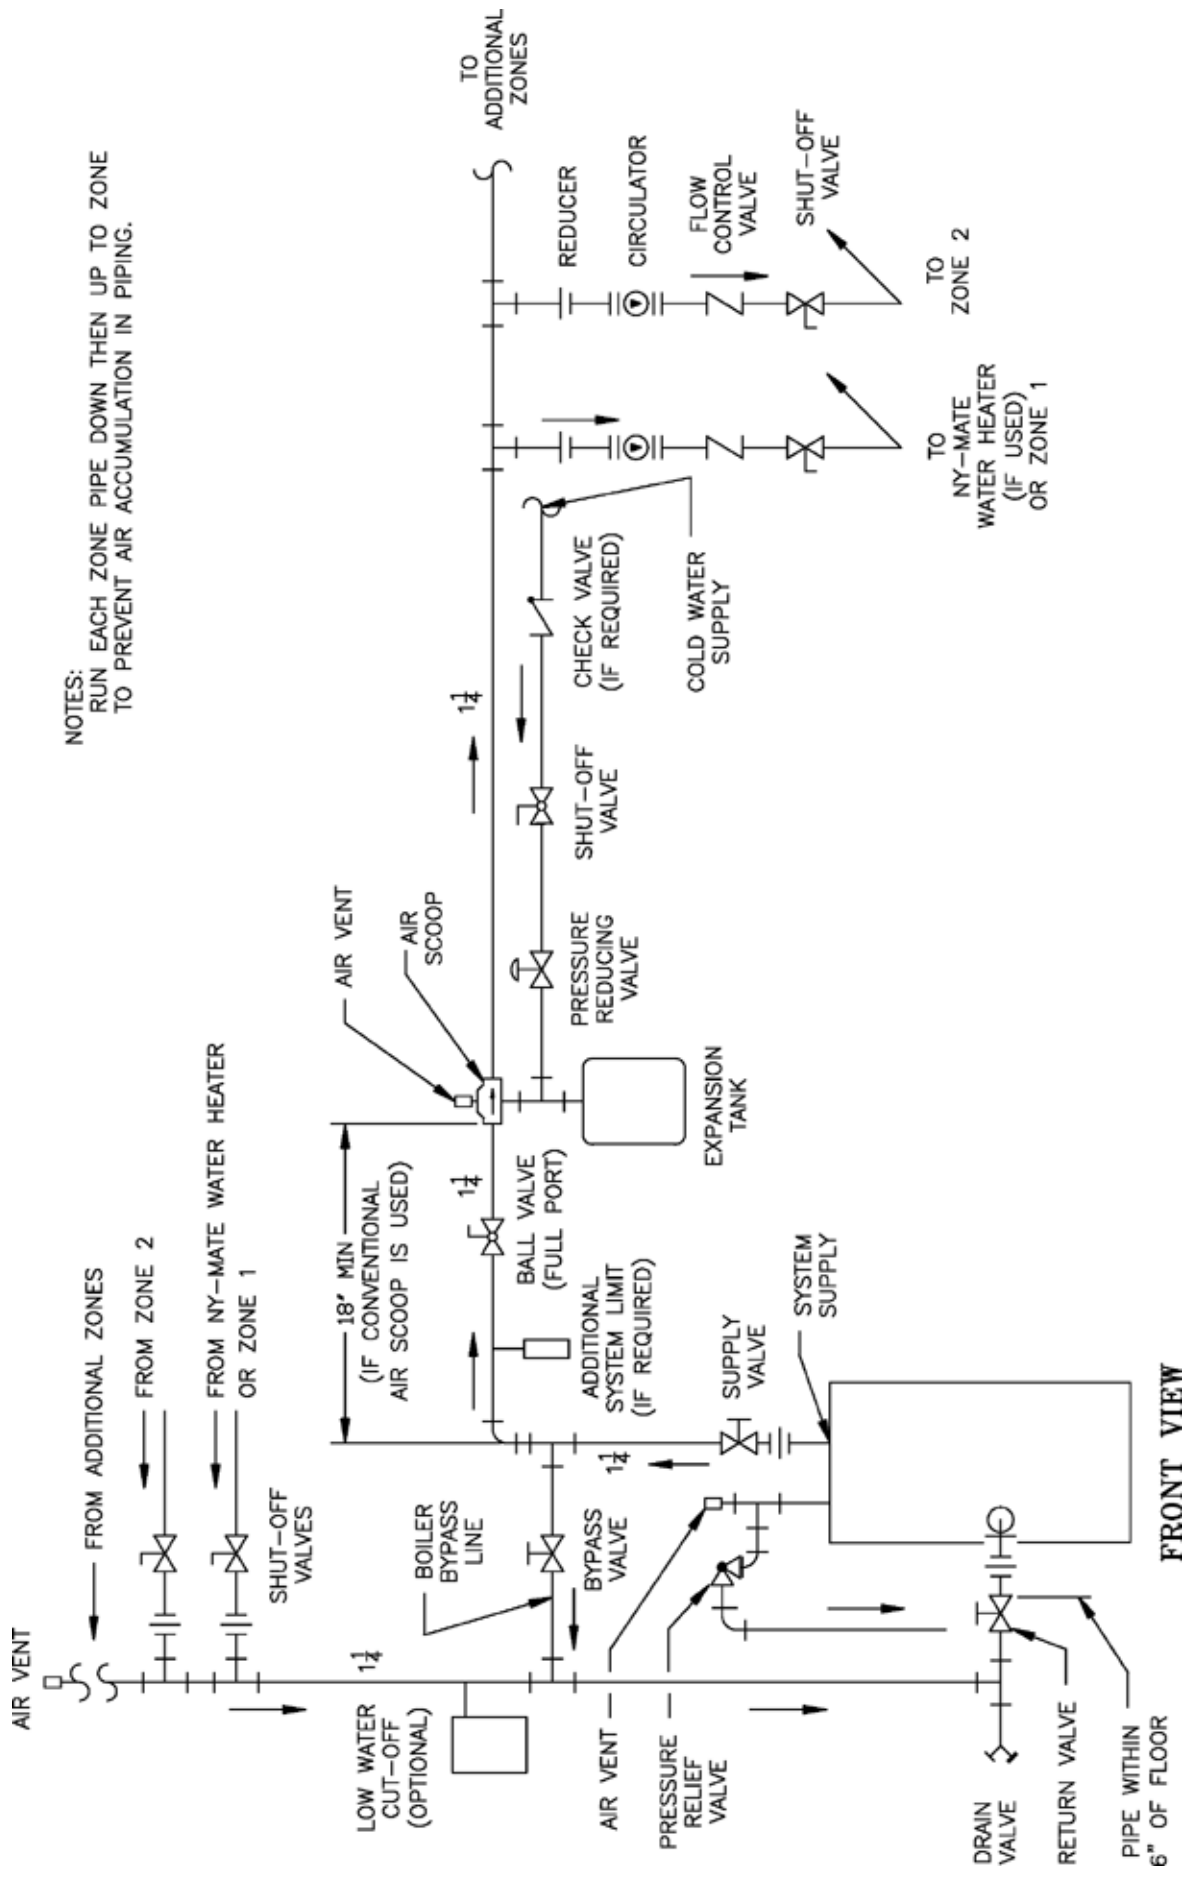

Figure 10: Recommended Boiler Piping for Circulator Zoned Heating Systems
line as illustrated in Figures 10 and 11 in order to regulate water flow for maintenance of higher boiler water temperature. Set the bypass and return valves to a half throttle position to start. Operate boiler until the system water temperature reaches its normal operating range. Adjust the valves to maintain 180°F to 200°F boiler water temperature and greater the 120°F return temperature. Adjust both valves simultaneously. Closing the boiler return valve while opening the bypass valve will raise the boiler return temperature. Opening the boiler return valve while closing the by-pass valve will lower the boiler return temperature.
- D. INSTALL DRAIN VALVE** in return piping. See Figures 10 and 11.